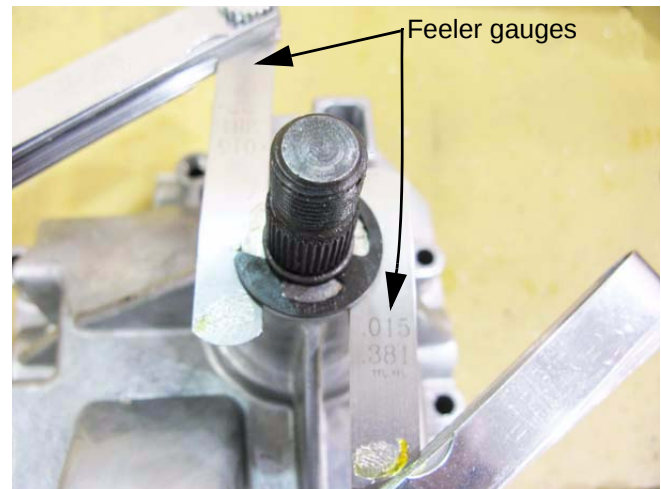

Figure 6.98
15. Inspect the pinion gear and input shaft assembly. See Figure 6.98.